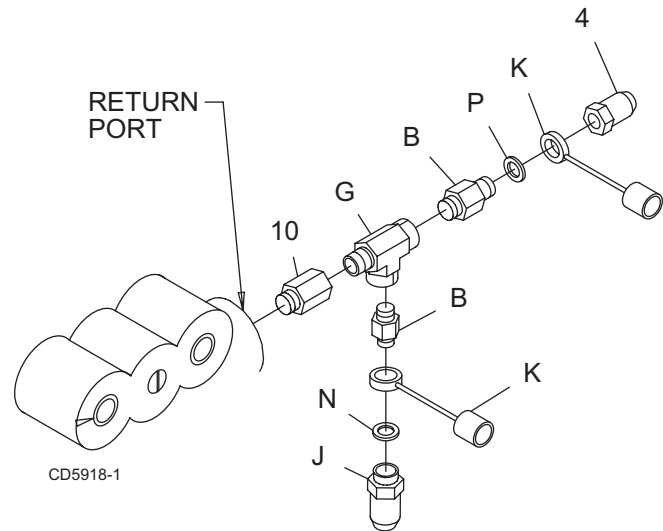

Figure 17 Return Port Fittings Installation
2. Install fittings, quick couplers, dust caps and colored bands to the hydraulic manifold RETURN port as shown in Figure 17.